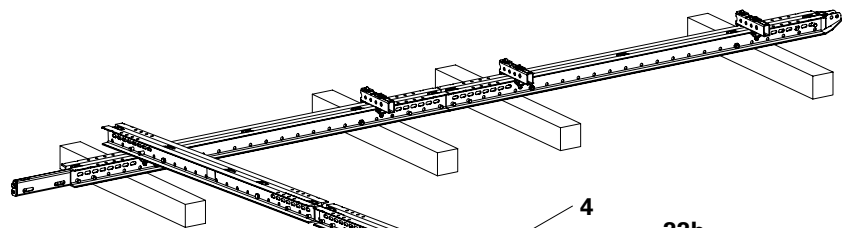

Fig. B4.03
3. Assemble the Steel Waler Universal SRU (22) with Longitudinal Connector SRU (4) as Cross Beam (22b) according to project-specific dimensions.
4. Position pre-assembled Cross Beam on the Cross Fall Compensator and mount using fitting pins (38) and cotter pins (39), see section "A1 System-Specific Components – Cross Fall Compensator SRU".
5. Accurately align the Cross Beam and tighten nuts (3.4). (Tightening torque 120 Nm) (Fig. B4.03 + B4.03a)